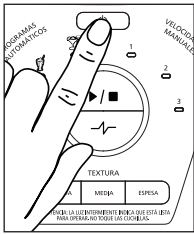

Fig. 19
1. Press the power button  to turn the blender on (Fig. 19). The power light will blink, meaning the blender is active and ready to use.
7. Press the power button  to turn the blender off (Fig. 19).